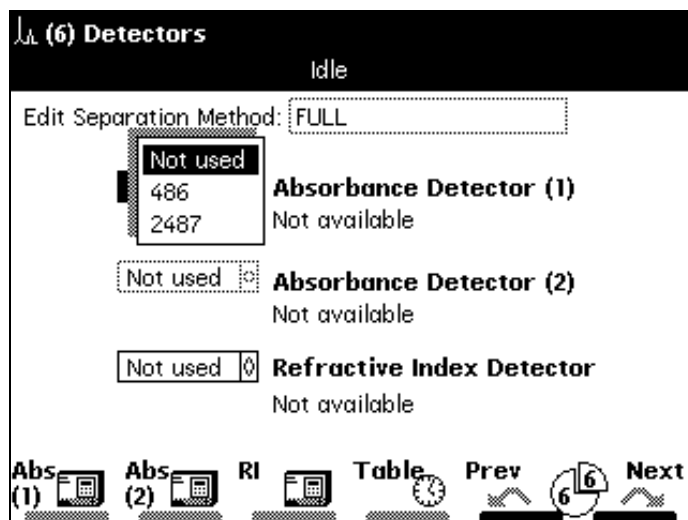

Figure 5-19 Detectors Screen
1. Press the **Next** or **Prev** screen key to display the Detectors screen (Figure 5-19).